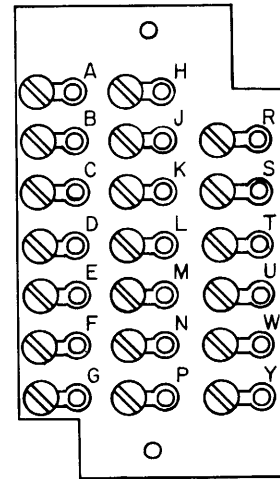

Figure 5. Type 860B Key Telephone Set Terminal Board.
2.14 The terminal board (Figure 5) is mounted to the rear of the ringer, and directly beneath the dial mechanism.